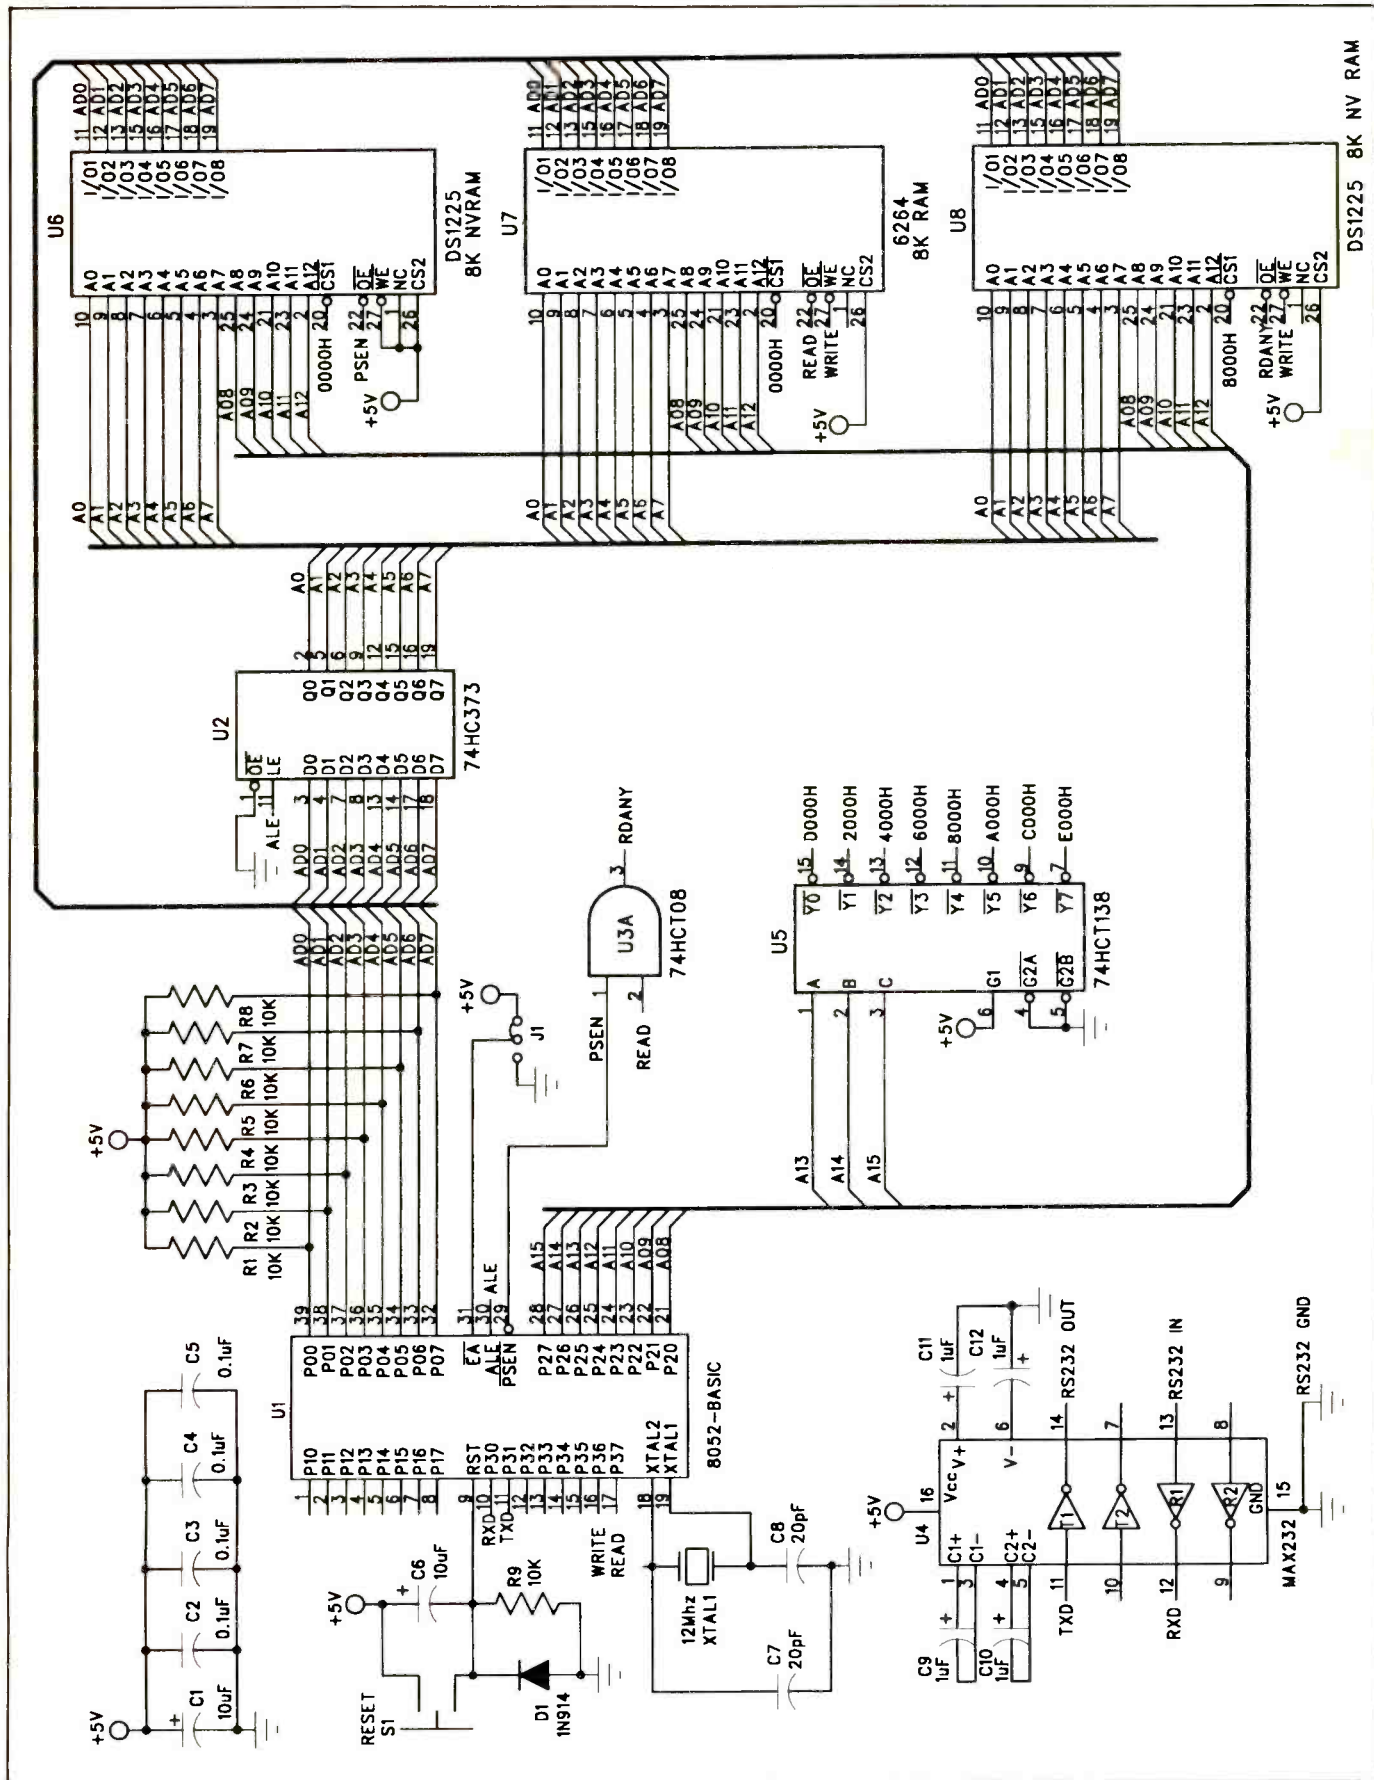

Fig. 1. With this circuit, you can copy the BASIC-52 interpreter from ROM to external nonvolatile RAM.
For those who would rather do it themselves, the schematic diagram shown in Fig. 1 illustrates a circuit you can use to copy the BASIC-52 code from an 8052-BASIC chip into a NV RAM. You then can use the NV RAM as the BASIC interpreter in projects that contain an 8032. This circuit is similar to many other 8052-BASIC designs. Chip U1 is an 8052-BASIC, which you can replace with an 8032 after you copy the BASIC interpreter.
I built the Fig. 1 circuit on perforated board using Wire Wrap hardware and techniques. You could also use point-to-point wiring and solder components and leads or design and make a printed-circuit board.
Here are a few tips to keep in mind when assembling the Fig. 1 circuit:
- Except for U4, V+ power-supply and ground pins for ICs aren't indicated in Fig. 1. These are in their traditional locations, with the highest-numbered pin connecting to +5 volts and the diagonally opposite pin connecting to ground.
Now I'll describe how to use the Fig. 1 circuit to copy the BASIC-52 interpreter to NV RAM and then detail how to use your new BASIC-52 in external memory. These instructions assume that you have some experience using the 8052-BASIC chip.